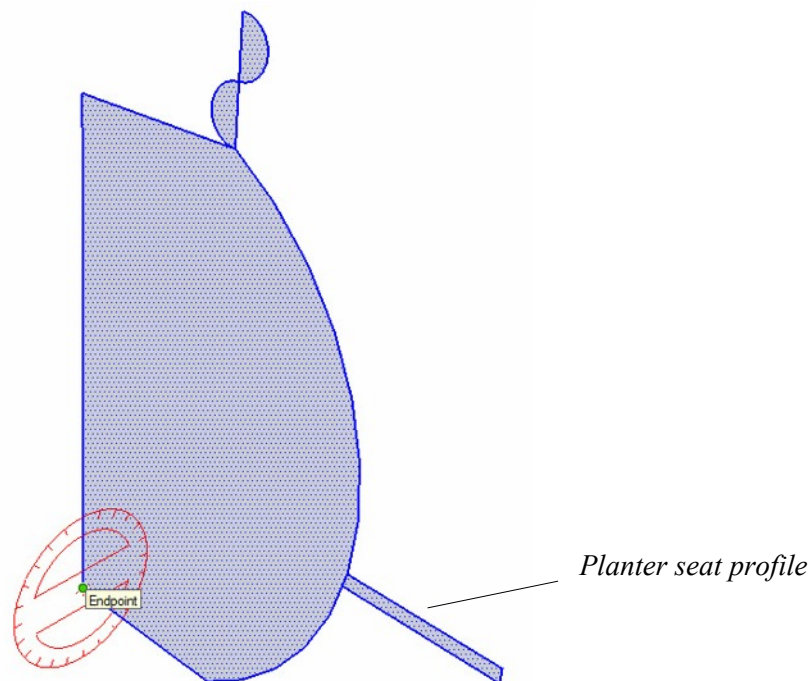

Figure 96. The Large Planter profile rotated through 90° up to the vertical axis
- Move the cursor so that it is at a point 90 degrees from the perimeter point you just chose and click once. You will see the planter profile rotate through 90° as you move the cursor as shown in Figure 96.